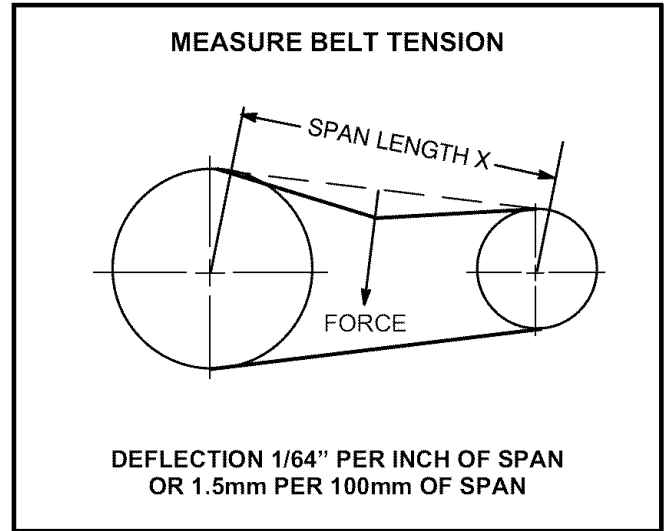

FIGURE 17
- 1- Measure span length X. See figure 17.
- 2- Apply perpendicular force to center of span (X) with enough pressure to deflect belt $1/64$ " for every inch of span length or 1.5mm per 100mm of span length.